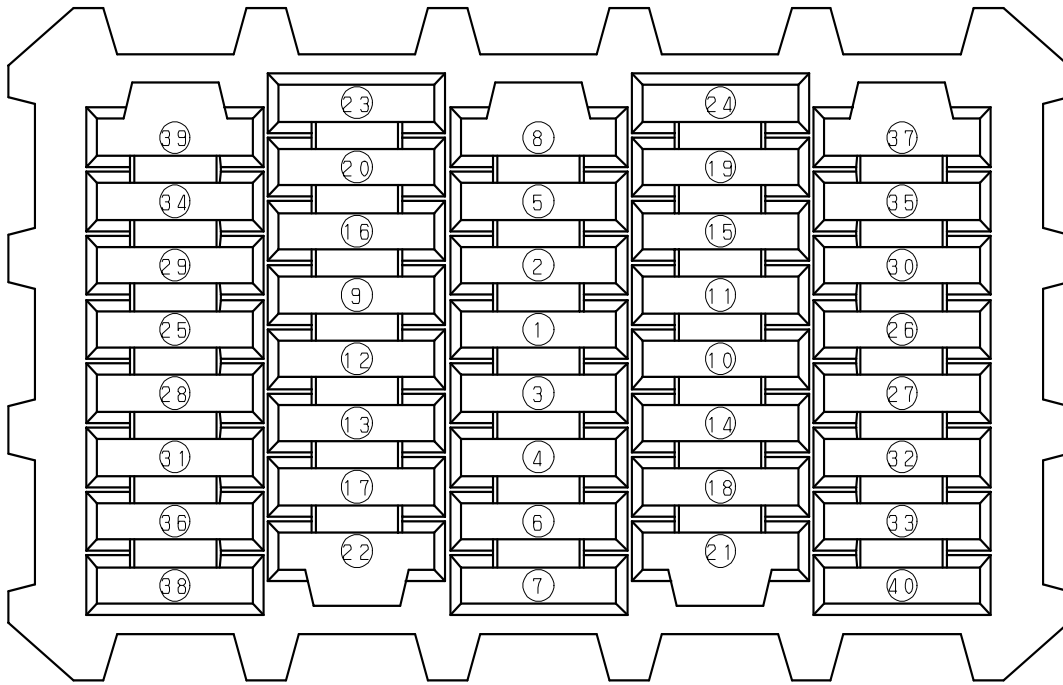

Figure 6.4 Fraction packaging
- (1) Put the conductivity bag (large) into the multi-box, in addition, put the cushion (lower) into the bag.
- (2) Put the bag packed products into the cushion (lower).
- In the fraction shipment, empty the slots in the Figure 6.4 where figure is larger than the number of shipment, and fill other slots with the products.
- (3) Put the desiccants between the conductivity bag (large) and the cushion (lower) in the box. (20g x 10 area)
- (4) Put the cushion (upper) into the box.
- (5) Seal the conductivity bag (large) with the packaging tape.
- (6) Close the box with the packaging tape. (Attach the tape in 'H' figure at the top.)